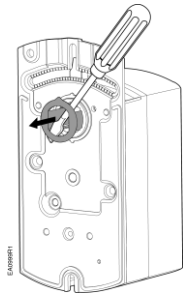

Figure 3. Removing 1/2-inch Ø Shaft Guide for 3/8-in or 5/8-in Shaft.
When using a 3/8-inch shaft: Remove factory-installed 1/2-inch guide. See Figure 3.
1. Remove factory-installed 1/2-inch guide. See Figure 3.